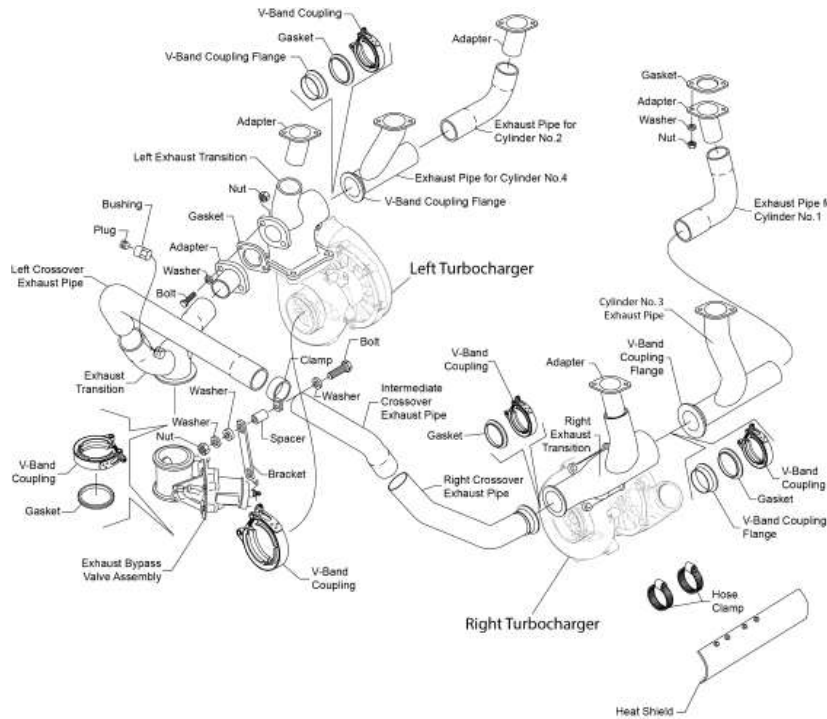
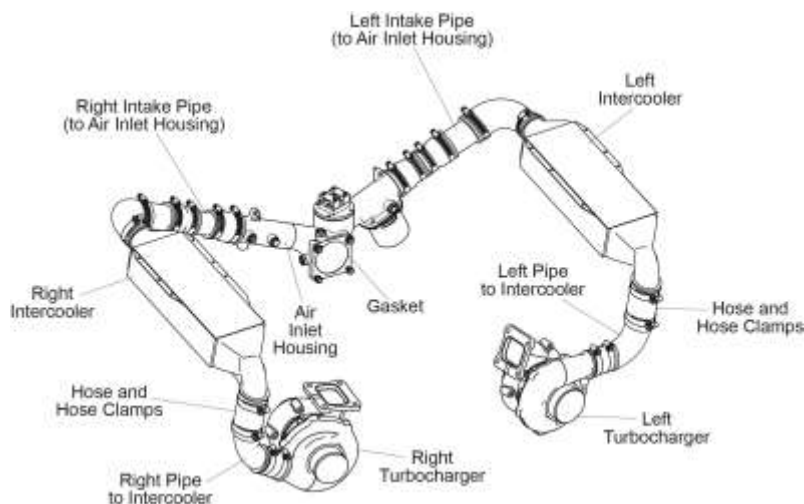

Figure 1
Figure 2
- A. This engine has two turbochargers, one on each side. A left and right exhaust transition attaches to a respective left and right turbocharger (Figure 1). Each turbocharger has two sides, a turbine side and a compressor side. Exhaust gas continuously passes through the turbine side of the turbocharger and turns the turbine within the turbocharger. The turbine rotation compresses air that flows through intake pipes on the compressor side of the turbocharger. The air becomes pressurized and is discharged to left and right intercoolers through pipes. From the intercooler, this cooler air flow passes through a respective left and right intake pipe to the air inlet housing (Figure 2). Through the throttle body and into the sump air intake then through the intake pipes to the cylinders. The exhaust gas is discharged through exhaust outlet pipes attached to the turbocharger.
- B. An exhaust bypass valve (Figure 1) at the Y-shaped exhaust transition on the left side of the engine controls the amount of exhaust gas flow to the turbocharger. This valve is controlled by an oil pressure actuator which is activated by an ECU controlled solenoid in the accessory housing
- B. Make sure all connections in the exhaust system at the turbocharger V-band couplings (Figure 1) are tight and do not have air leaks. Examine the tightness of the V-band coupling on the turbocharger by inserting a screwdriver in the space made by the hinged latch of the coupling. Try to turn the coupling using a force of approximately 20 ft.-lb. (27 Nm). If the clamp does not turn, measure the torque of the self-locking clamp nut by tightening it to the torque in the Special Torque Requirements Tables in Part 1, Section V in the latest revision of the *Service Table of Limits - SSP-1776*. If the clamp turns, remove it, clean it, and examine it for cracks or distortions. Re-use or replace the clamp as necessary.
- C. Repeat the previous step for the V-band couplings that attach the exhaust bypass valve (Figure 1).
- D. Examine all flexible hoses in the induction system for brittleness which can be evidence of wear. Replace worn hoses. Make sure all connections in the induction system are tight and do not have any leaks (Figure 2).
F. Disconnect the turbocharger from the exhaust transition and the pipe to the intercooler (Figure 2).